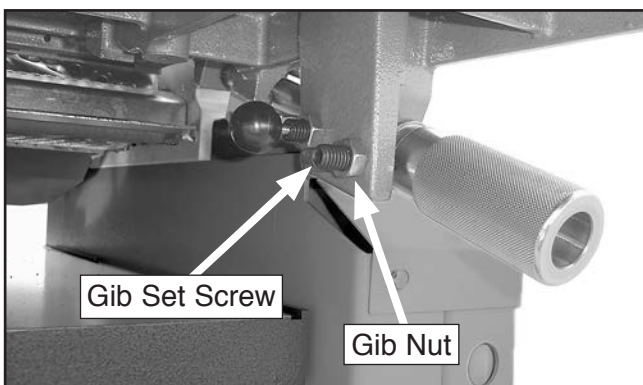

Figure 76. Infeed table gib control.
- Using adjustable wrench, loosen infeed table gib nut under rear of table (see **Figure 76**).